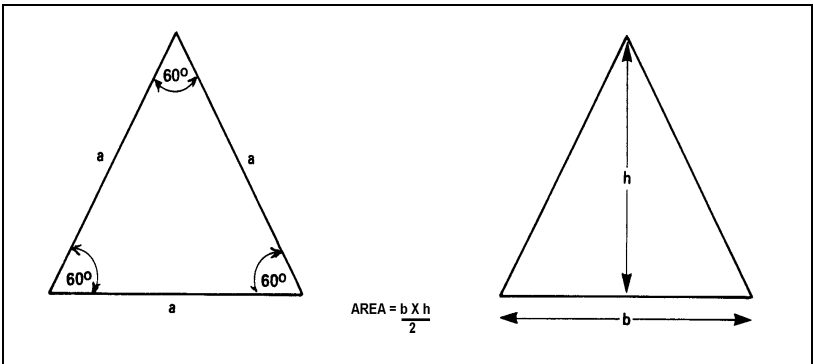

Fig 11-3-1 Triangles
2. **Triangles.** A triangle is an enclosed three-sided figure where the sum of the three interior angles equals 180 degrees (3200 mils). The area of a triangle is determined by multiplying the length of the base by the height and dividing by two (Fig 11-3-1).